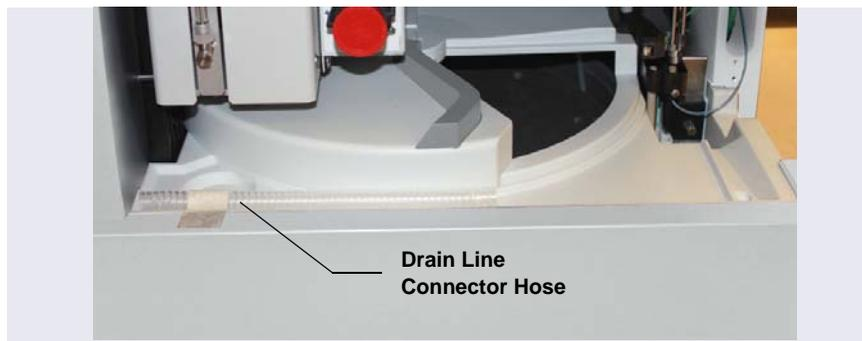

Figure B-35. *Drain Line Connector Hose for the Sample Temperature Control Option*
4. Untape the short length of convoluted drain line from the front of the autosampler (see Figure B-35) and connect this line to the left side of the tee.